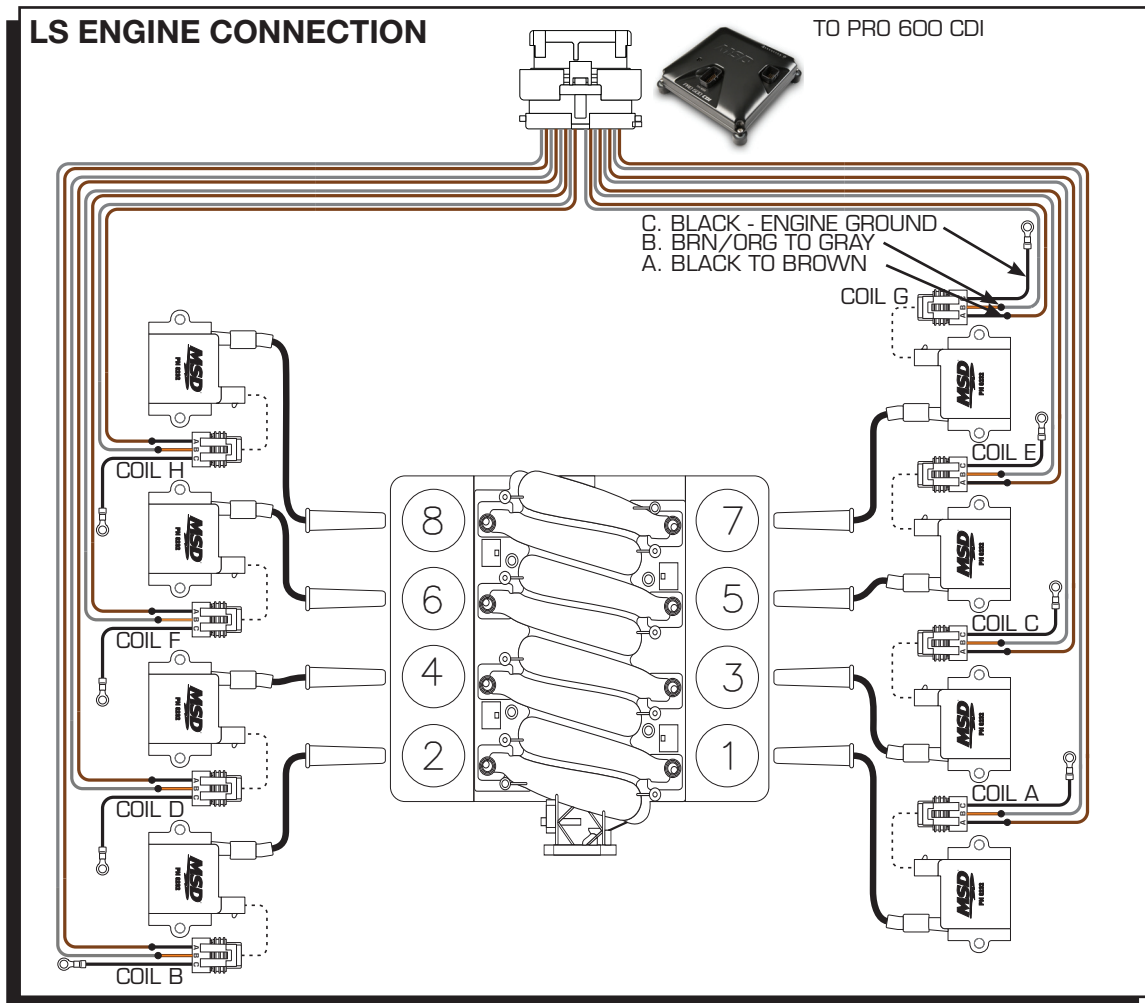

Figure 7. LS Engine Coil Connection
- Connect each of the paired outputs A to H to its corresponding coil 1 thru 8 as in Figure 7.